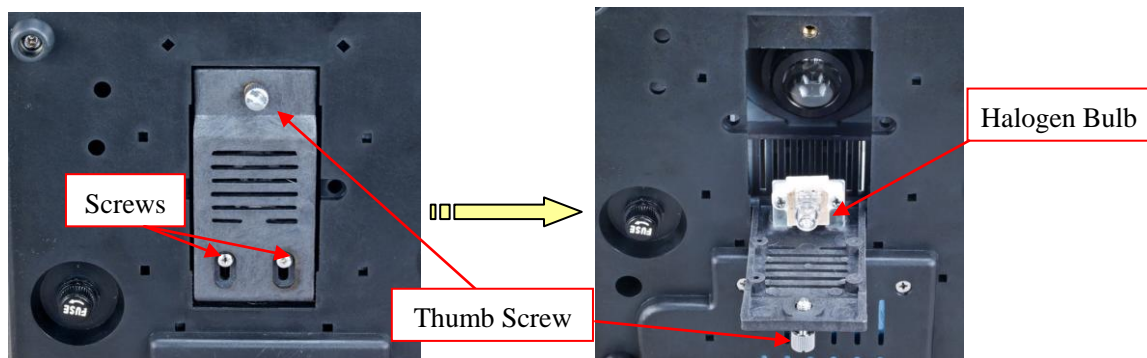

Fig.3
- 6) Be sure the pins on the bulb are completely inserted into the lamp socket. You may also loosen the two screws on the cover to adjust the position of the bulb to get centered and even brightness. See **Fig. 3**.